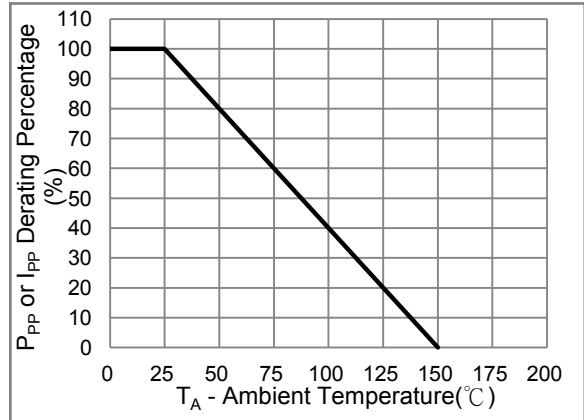
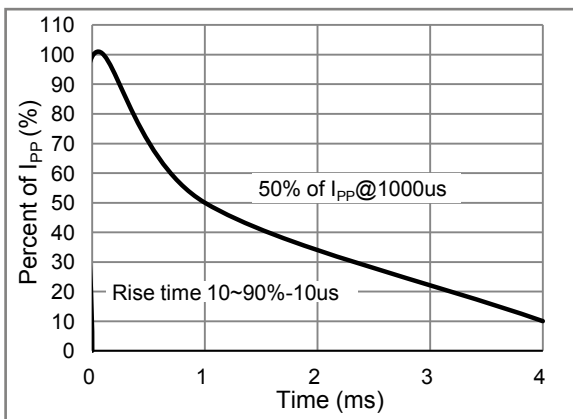

Fig.2 Derating Curve
Fig.3 10/1000μs Pulse Waverform
1. Non-repetitive current pulse, per Fig.3 and derated above $T_A = 25^\circ C$ per Fig. 2.